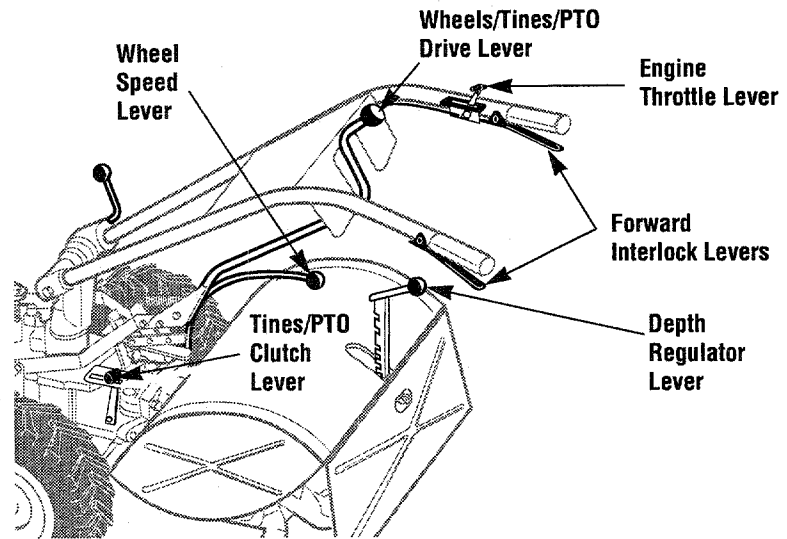

Figure 4-22: PTO Power Unit controls.
4. Place the Wheels/Tines/PTO Drive Lever into NEUTRAL (Figure 4-22).
5. Place Tines/PTO Clutch Lever in DISENGAGE (Figure 4-22).
6. Place Wheel Speed Lever into FREE WHEEL (Figure 4-22).
2. Move Wheel Speed Lever (Figure 4-22) to FREEWHEEL, then block all wheels (Figure 4-29) to prevent the equipment from rolling.
1. Move the Tines/PTO Clutch Lever (Figure 4-22) to DISENGAGE.
2. Move the Wheel Speed Lever (Figure 4-22) to either SLOW or FAST position. To do this, roll the PTO Power Unit while shifting lever until wheels engage.
1. Move Tines/PTO Clutch Lever (Figure 4-22) into ENGAGE.
2. To apply power to PTO-driven attachments, move Wheels/Tines/PTO Lever (Figure 4-22) down to FORWARD position (*do not use REVERSE with stationary attachments*).